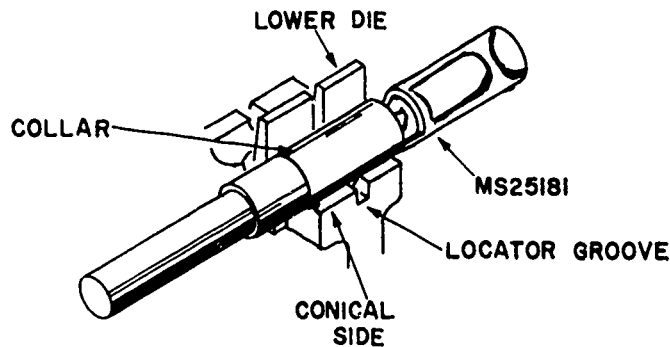

Figure 6.
e. e. Select a splice connection. Put it in the crimping tool so that only one side of the splice will be crimped, see figure 6. Be sure that the side of the splice to be crimped is on the conical die side of the locator groove in the upper nest.